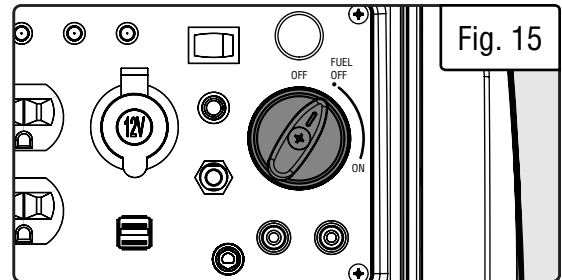
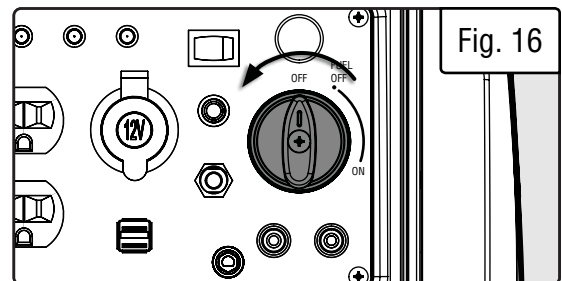

Fig. 15
Fig. 16
3. Turn the engine switch to the FUEL OFF position (Fig. 15). This feature will burn off the remaining fuel in the carburetor, helping to combat fuel degradation and prolong engine life. You may also choose to shut off the engine quickly (e.g. for refueling, moving the generator, etc.) by turning the engine switch to the OFF position (Fig. 16), but this option will let fuel remain in the carburetor. Be sure to drain the carburetor (see page 26) after use to prolong engine life.